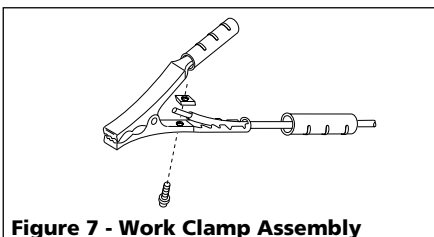

Figure 7 - Work Clamp Assembly
2. Insert cord (labeled work on the front panel of the welder) through clamp handle and slide bare wire under the clamp block. Tighten hex bolt making sure bare wire is clamped securely (Fig. 7).